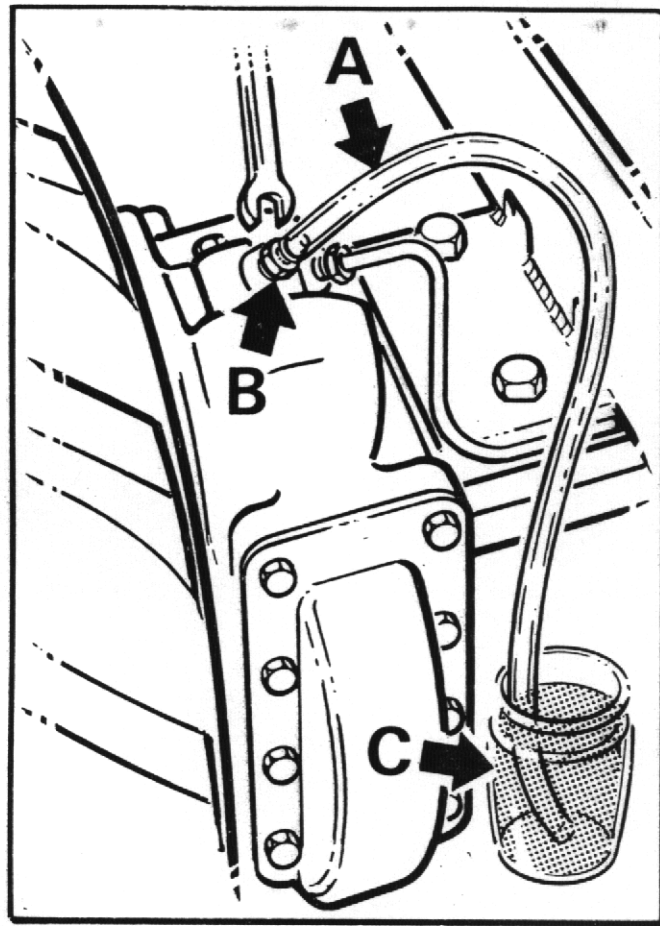

FIG. 7
3. Attach bleeder tube (A) (See fig. 7) to the bleed screw (B) on the L.H. side of the front axle and immerse other end in a small quantity of hydraulic oil contained in a glass jar (C). Slacken bleed screw and operate brake pedal up and down to its full stroke, until oil pumped into the jar contains no air bubbles. Hold down pedal and close bleed screw. Remove bleeder tube and release pedal.